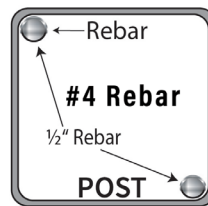

Fig.3a
1. Each end, corner or gate post takes 2 pieces of 1/2" diameter rebar cut 4" shorter than the post length located at opposing corners of post (Fig. 3a).